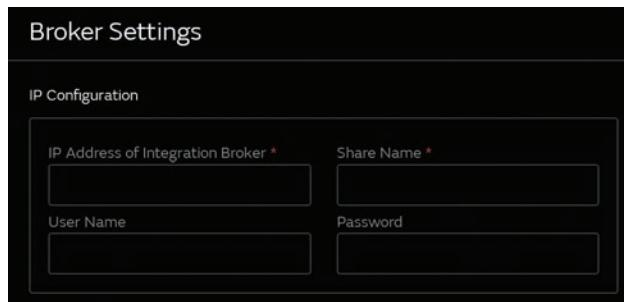

Figure 15. Broker Settings
3. Enter the **IP Address** and the **Share Name** for the Integration Broker* (Figure 15).